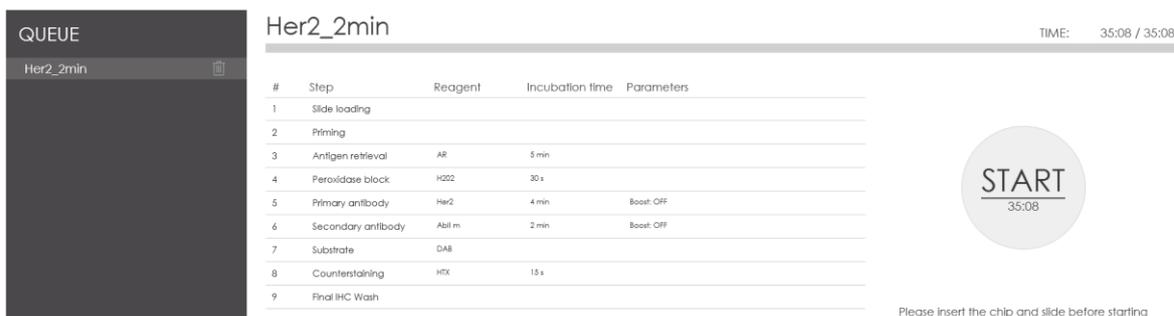

Figure 17) Queue and Protocol area. START button and duration are displayed once the user has completed all the required actions.
Once the user has completed all the Required Actions, the "Start" button will become available and will replace the Required Actions area (Figure 17). The protocol can be started after inserting the Staining chip and loading the slide.
- Click “Start” to execute the protocol (Figure 17).